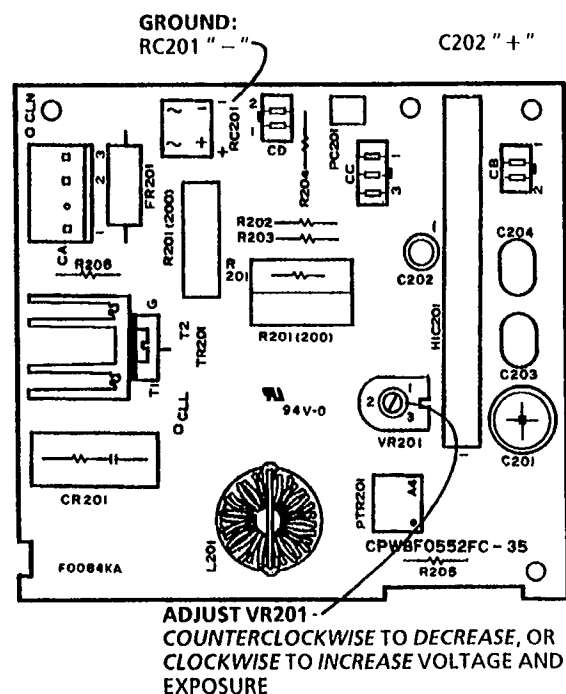

Figure 1. Exposure Voltage Check/Adjustment
3. (Figure 1): On the exposure control PWB, connect the meter between the "+" side of C202 (+) and ground on the "-" side of RC201 (-).
7. Holding in the interlock rod, make five copies, reading the meter when the exposure lamp comes on. Adjust the copy density dial (VR201) (Figure 1) until the voltage is 6 ± 0.4 VDC.